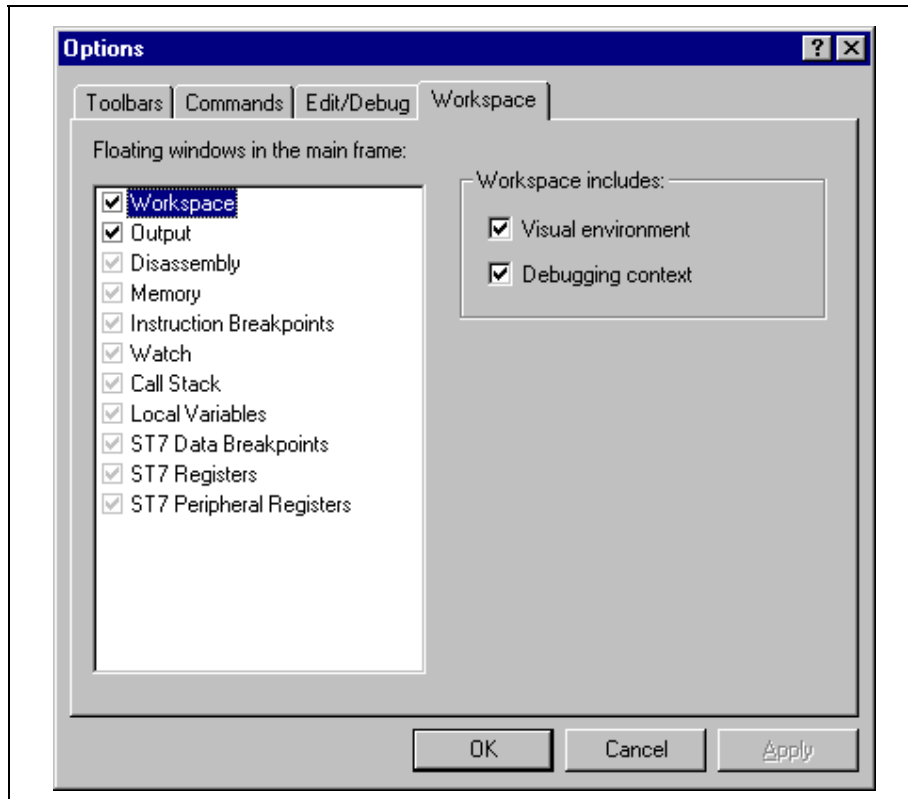

Figure 6: Options window
- 2 In the Options window that opens (see Figure 6 on page 31), select the **Workspace** tab.